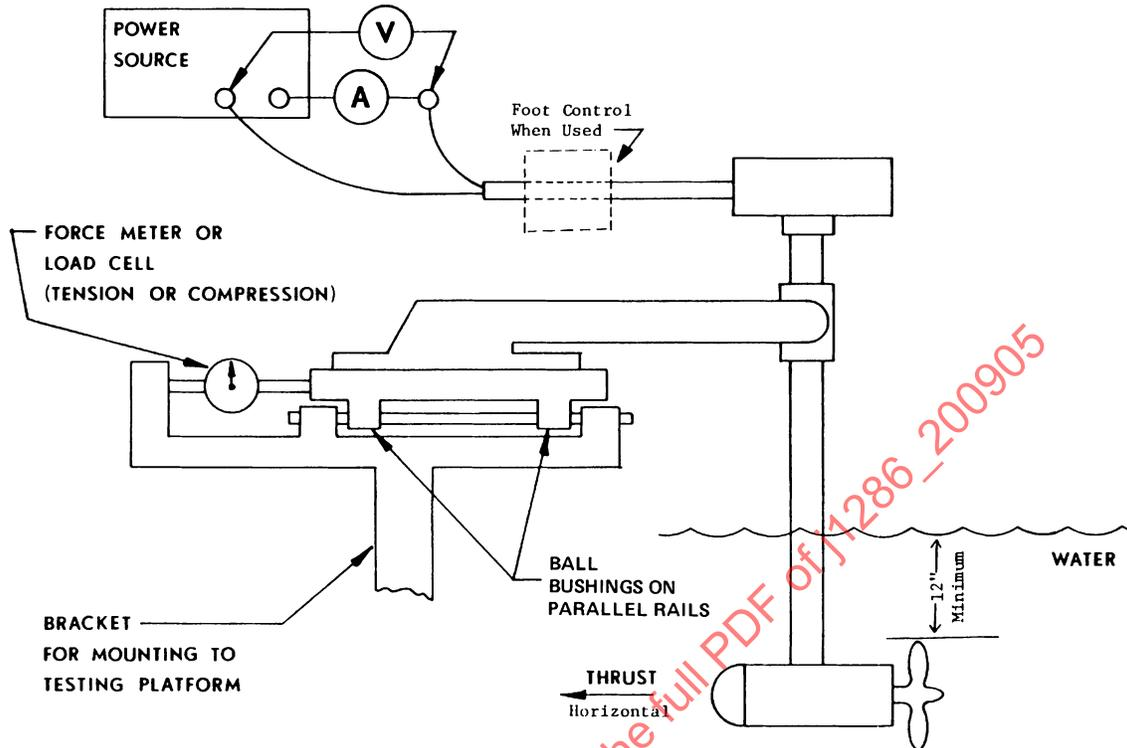

FIGURE 1—THRUST TEST DEVICE
- 3.4 The thrust device shall be constructed as shown in Figure 1.
- 4.1 Install the electric outboard in the thrust device and connect the battery leads provided by the manufacturer to the power source. See Figure 1.
- 4.3 Install the thrust device in such a manner so that the highest point of the electric outboard propeller is 30.5 cm (12 in) minimum below the surface of the water. See Figure 1.